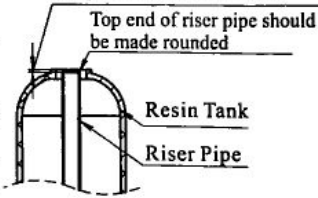

Figure 1
① The filter should be as much close to the drain outlet as possible; and better make sure to install the system at the place where no much loss would be caused in case of water leakage.
② As in Figure 1, riser pipe should be installed neither more than 2mm above the mouth of tank, nor over 5mm below it, with its top end being made rounded to avoid damaging the O-ring of riser pipe.
③ Make sure not to slide off the O-ring of base when you install the valve.
④ Keep inlet and outlet pipelines parallel with one another, and fix them with support holder.
⑤ It's forbidden to use pipelines or connectors as supporting or lifting